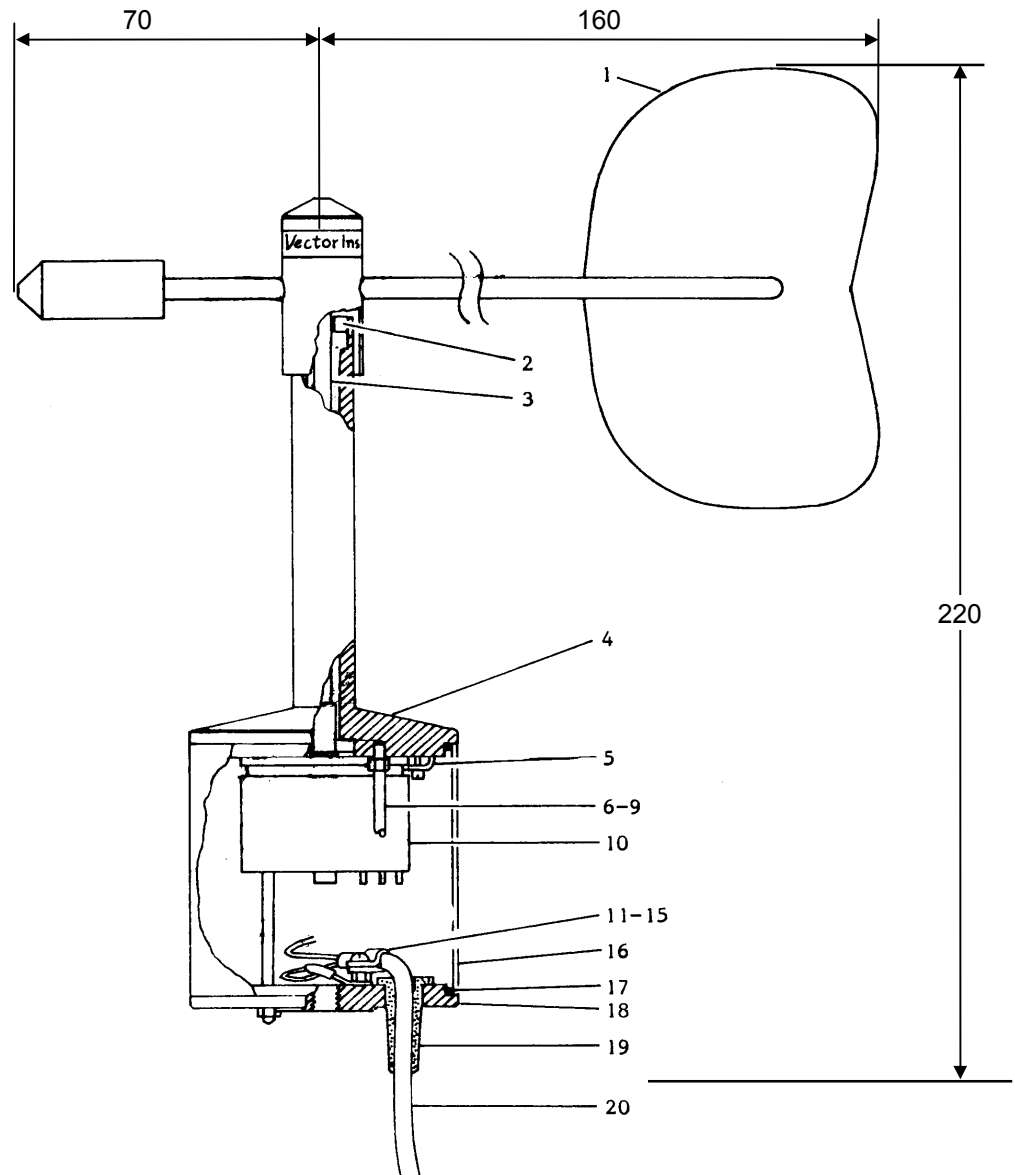

Figure 3 W200P Windvane — General Arrangement
3. Refer to Figure 3, below. Unscrew the nuts holding the base plate (18) using a 5 BA (5.5mm AF) nut-driver, pull off the base plate with body tube (16) and unsolder the wires from the potentiometer (10).
4. Remove the three servo mounting clips and take out the potentiometer with the spindle (3) attached.
5. Insert the new spindle with potentiometer if this has been obtained as an assembly. Alternatively, grip the spindle in a vice with soft jaws, unscrew the old potentiometer and screw on the new potentiometer. Clamp the potentiometer onto a rigid base and check the concentricity of the spindle using a DTI gauge. Adjust by bending to obtain concentricity to  $\pm 0.002$ " (0.05mm). Replace into top plate (4), and tighten the servo mount clips.
10. Remove the fin and check that the spindle does not touch the top bearing (2) as it rotates.
11. On final assembly, apply non-drying silicone rubber compound around studs (6) and replace the washers (8) and nuts (9). Wipe off excess compound.